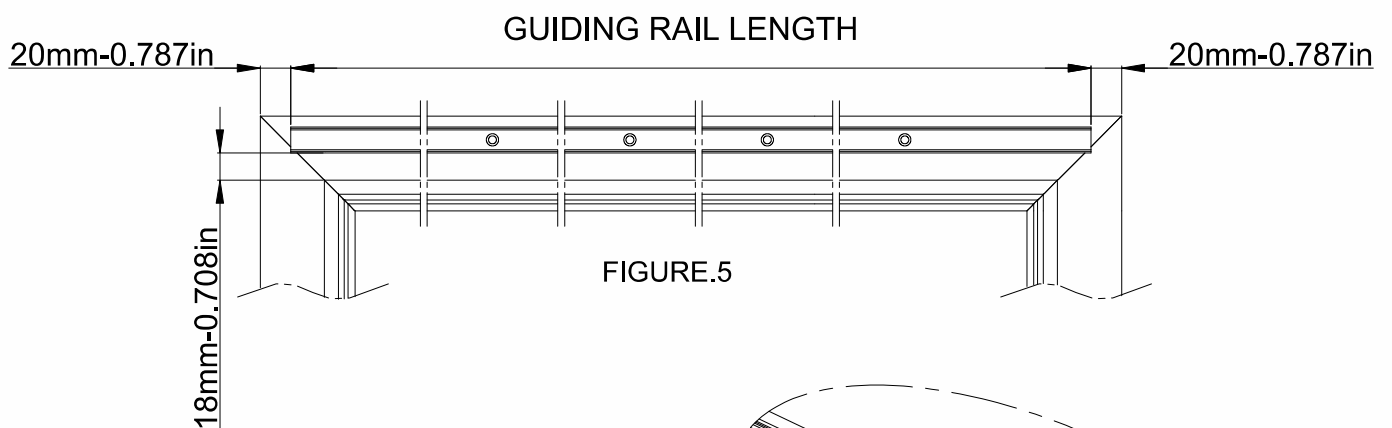

FIGURE.5
- a- Cut length of guiding rail equal to that 40mm-1.574in shorter than frame length as shown in Figure.5.